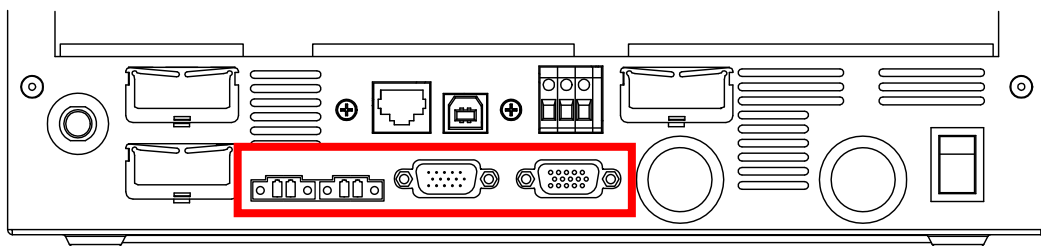

Figure 7: Bottom view of inverter with installed parallel card
10. Fasten the parallel board where the beige board was originally installed using the two screws and washers from step 4. When finished, the parallel board will sit in the same place as the beige board was before removal, connected to the same connectors and fastened with the same screws. The connectors of the parallel card must match the cut-outs of the metal casing of the inverter as shown in Fig. 7.
12. Screw the communication board back into the inverter, the reverse of step 3. Use the screws removed in step 3. The bottom of the inverter should now have the appearance of Fig. 7.